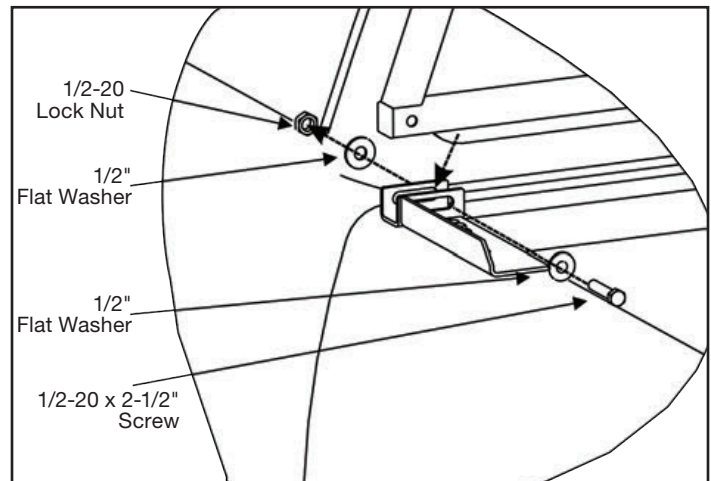

Fig. 5
5. Position the Window Protector on the front wall of the truck box. Slide the sides of Window Protector in the "U" shaped guides of the brackets. Align the brackets' slots with holes in the Window Protector and insert 1/2-20 x 2-1/2" screws. Install lock nuts. See Fig. 5